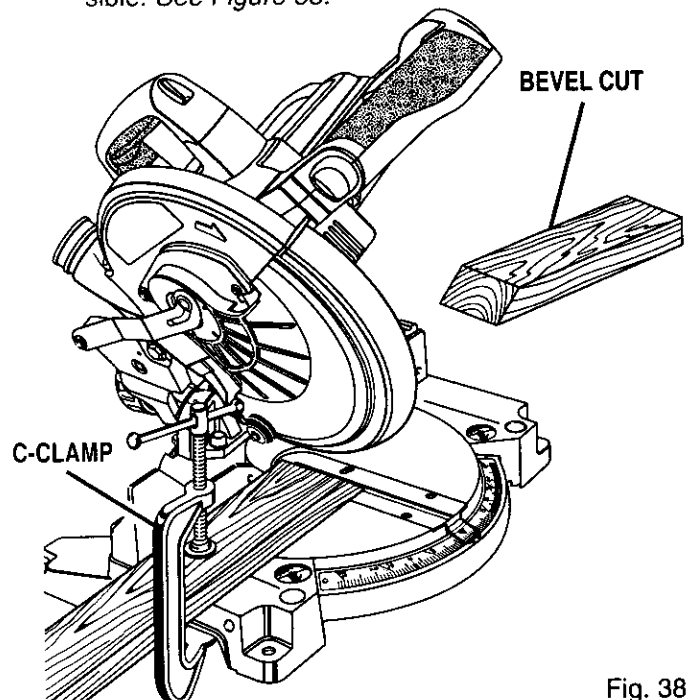

Fig. 38
- Grasp the stock firmly with one hand and secure it against the fence. Use the optional work clamp or a C-clamp to secure the workpiece when possible. See Figure 38.
- Slowly lower the blade into and through the workpiece. See Figure 38.